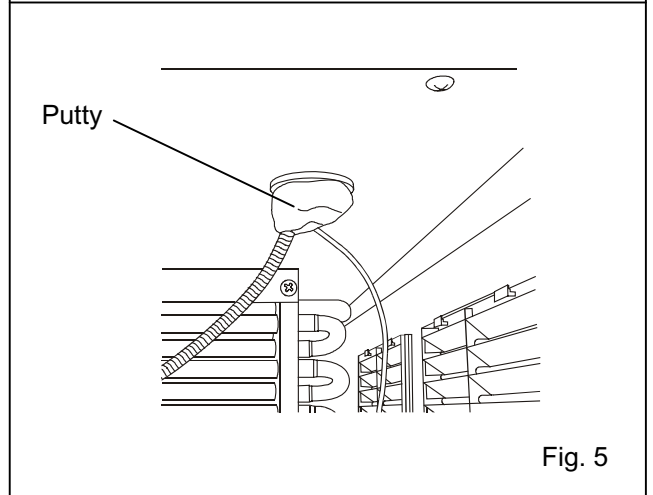

Fig. 5
7. Seal the access port on the outside with putty as shown in Fig. 5.